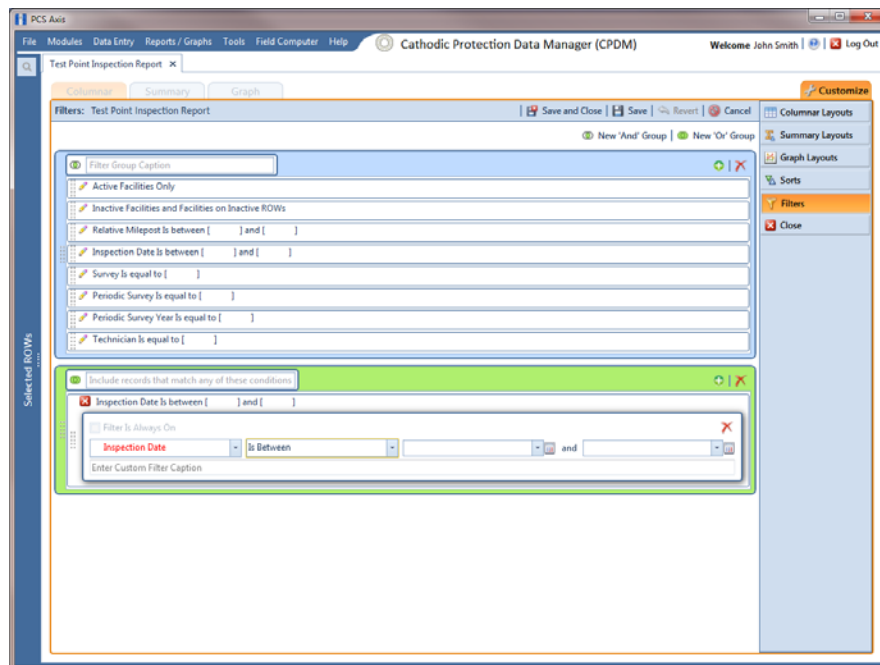

Figure 15-44. New 'Or' Filter Group
- Click  **New 'Or' Group** to open a filter properties group box (Figure 15-44).
- 7 When adding a date filter, such as *Inspection Date Is Between*, set a date range using a calendar or dynamic dates in the following manner (Figure 15-44, page 666):